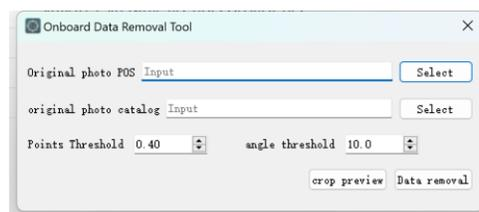

Figure 3-170 Remove redundancy data
(2) Remove redundant data
- Click <Toolbox> → <Data Process> → <Process> → <Remove redundancy data> on the main interface, and a dialog box will pop up (Figure 3-170).